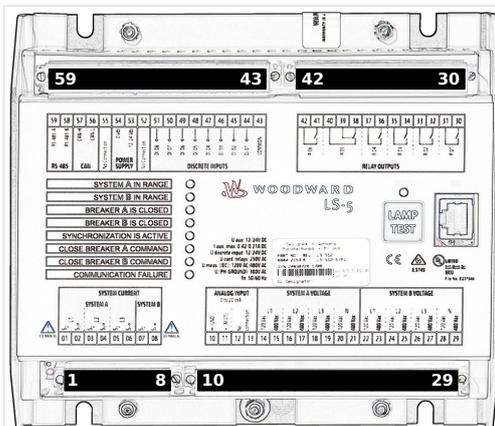

Fig. 19: Sheet metal housing
- Sheet metal housing - shown in ↳ Fig. 19